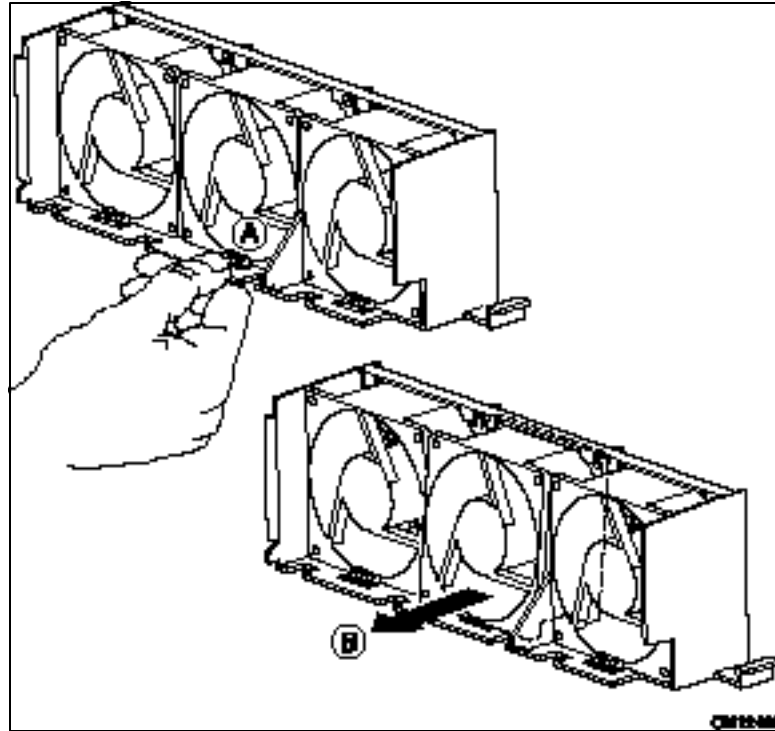

Figure 38. Removing a Fan
6. At the base of the failed fan, press down on the tab (Figure 38, A) while rotating the bottom of the fan out (B) and remove the failed fan from the fan assembly.
8. Remove the three mounting screws that secure the server board to the chassis (see Figure 38).